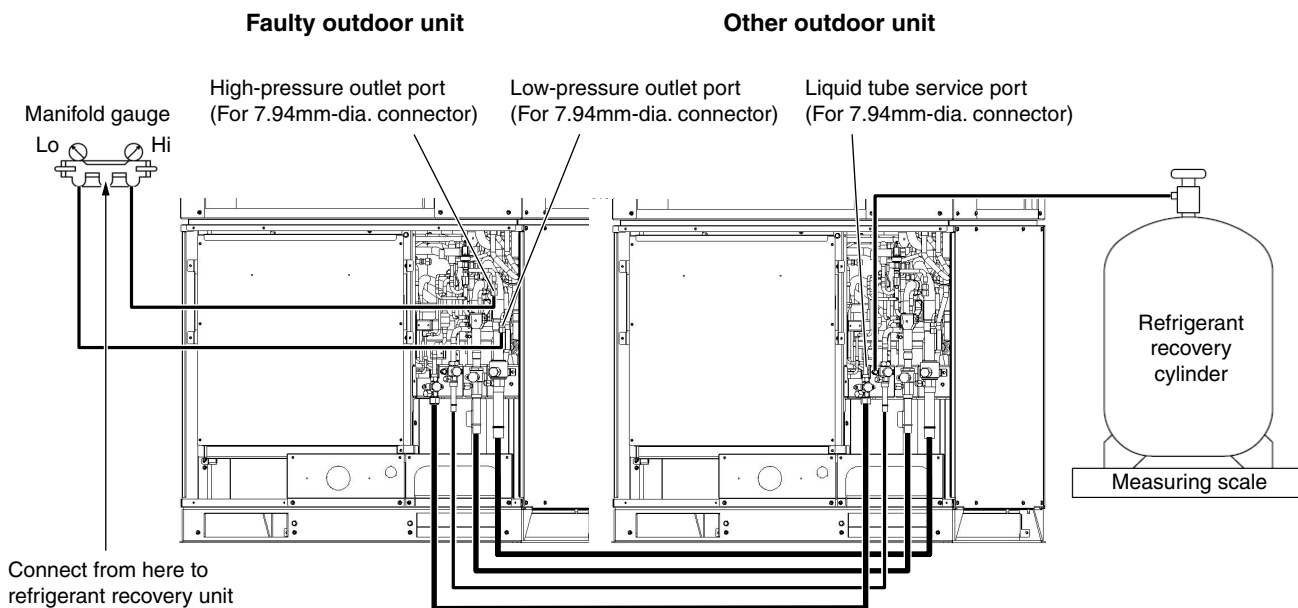

Fig. 18
(1) Refer to “4. Backup Operation” and perform backup operation.
(2) Connect the manifold gauge valves at the Lo side to the low-pressure outlet port of the outdoor unit to be repaired. Also connect the refrigerant recovery cylinder to any one of the normal outdoor units at the liquid line service port (Schrader-type push-to-release valve). Perform the connection work quickly so that no air is allowed to enter. (Fig. 18)
- (1) Refer to “4. Backup Operation” and perform backup operation.